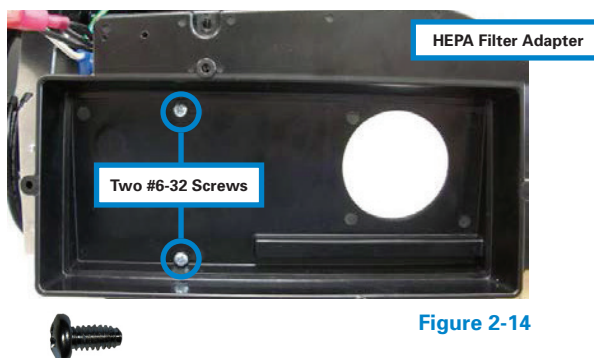
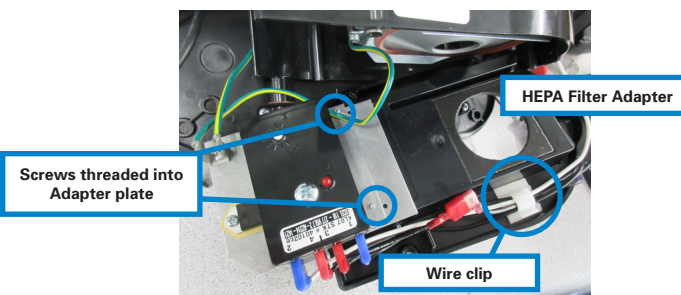

Figure 2-14
Figure 2-15
Step 2-11. To attach the Control to the HEPA Filter Adapter (A) as shown in **Figure 2-14 and 2-15**, align and thread the #6-32 screws (D) from the inside of the HEPA Filter Adapter through the Control Adapter Plate (C) (**Figure 2-15**). Clip the 4 control wires into the white wire clip on the backside of the HEPA Filter Adapter. See **Figure 2-15** for correct wire routing.